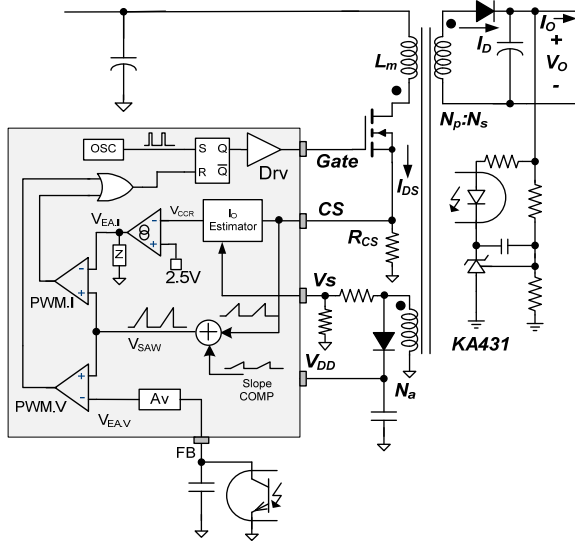
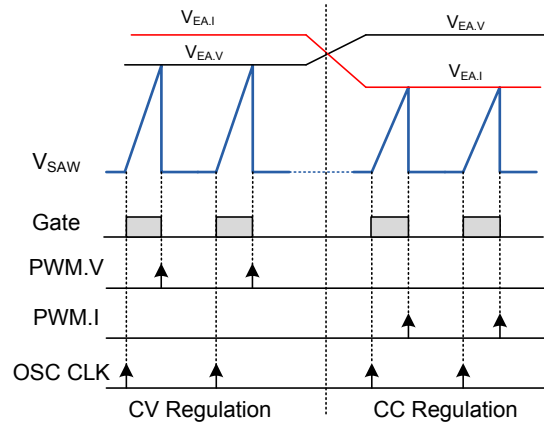

Figure 24. Internal PWM Control Circuit
Figure 25. PWM Operation for CC and CV
Figure 24 shows the internal PWM control circuit. The Constant Voltage (CV) regulation is implemented in the same way as in a conventional isolated power supply, where the output voltage is sensed using a voltage divider and compared with the internal 2.5 V reference of shut regulator (KA431) to generate a compensation signal. The compensation signal is transferred to the primary side using an opto-coupler and scaled down through an attenuator,  $A_V$ , generating  $V_{EA,V}$  signal. Then, the error signal  $V_{EA,V}$  is applied to the PWM comparator (PWM.V) to determine the duty cycle.
The two error signals,  $V_{EA,I}$  and  $V_{EA,V}$ , are compared with an internal sawtooth waveform ( $V_{SAW}$ ) by PWM comparators PWM.I and PWM.V, respectively, to determine the duty cycle. Figure 24 shows the outputs of two comparators (PWM.I and PWM.V) combined with OR gate and used as a reset signal of flip-flop to determine the MOSFET turn-off instant. Of  $V_{EA,V}$  and  $V_{EA,I}$ , the lower signal determines the duty cycle, as shown in Figure 25. During CV regulation,  $V_{EA,V}$  determines the duty cycle while  $V_{EA,I}$  is saturated to HIGH. During CC regulation mode,  $V_{EA,I}$  determines the duty cycle while  $V_{EA,V}$  is saturated to HIGH.